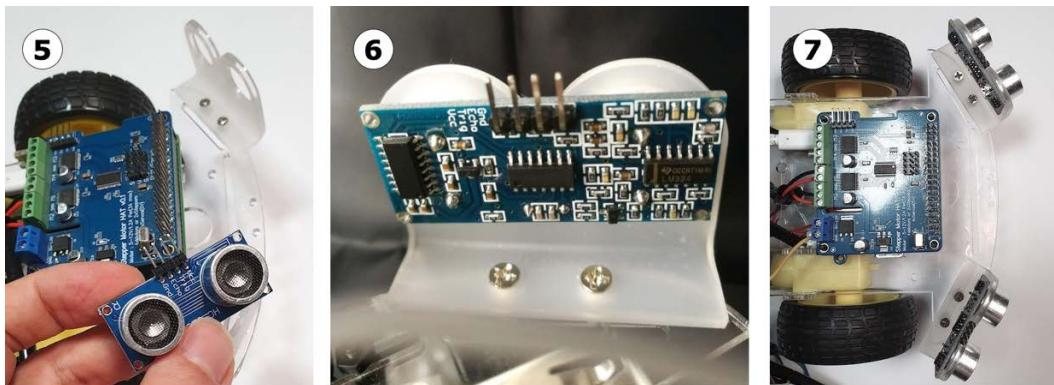

Figure 8.10 – Pushing the sensors into the brackets
Figure 8.10 shows how to push the sensors into the brackets:
7. After putting in both sensors, the robot should look like panel 7 of *Figure 8.10*.